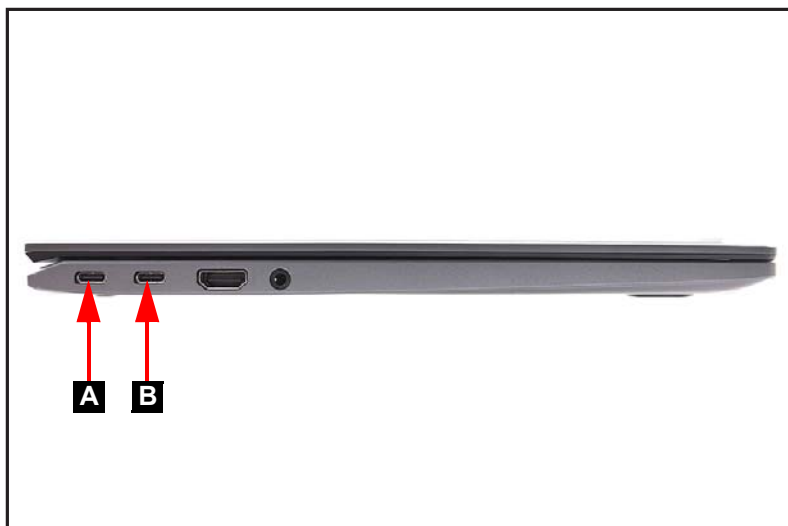

Figure 1-1. AC Adapter Outlet
2. Remove the power adapter from the USB Type-C port (A or B) as shown in Figure 1-1.